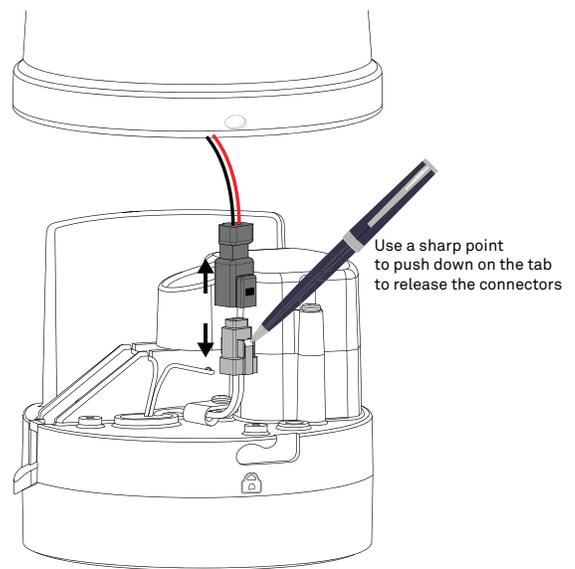

Figure 3 Disconnect pyranometer connector
6. Press in the tabs on both sides of the connector locking mechanism with an object with a sharp point (e.g., a ball-point pen, Figure 3).
NOTE: If the rain funnel pyranometer connect does not look like the one in Figure 3, just pull the connectors apart.